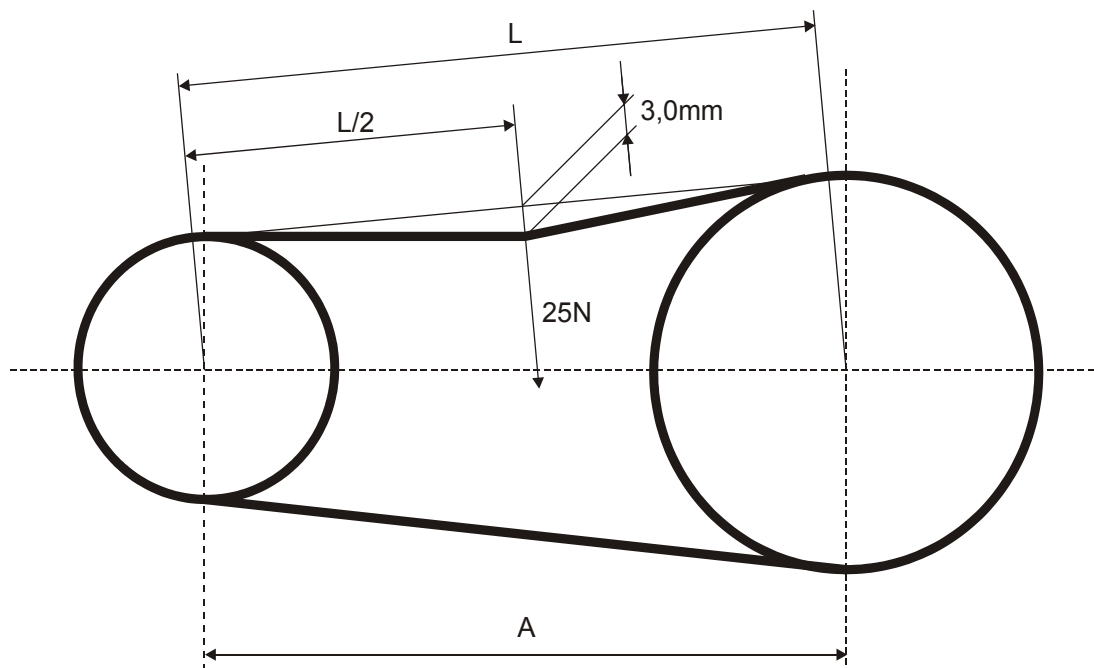

FIG. 2-2
See Figure 2-2.
3. Use a belt tension gauge to measure the belt tension. Place the gauge on the belt at the midpoint between the two pulleys. If the belt tension is less than 3.0mm with 25N of deflection (See Fig.2-2), tighten the belt as described below.